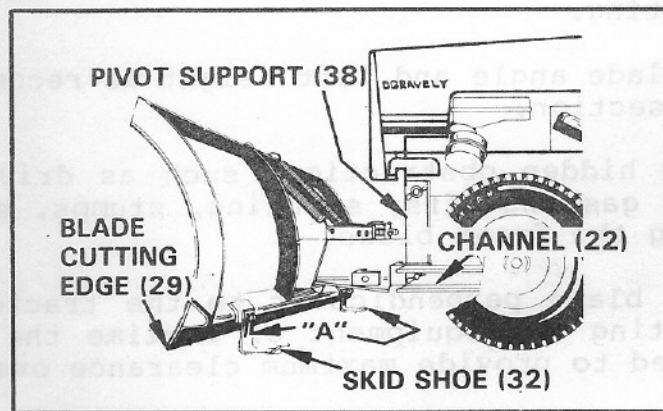

Figure 2
3.1 Operating on rough terrain, the skid shoes should be lowered to prevent the blade from striking rigid objects. Adjust skid shoes by loosening bolts A, Figure 2, and moving the shoes up or down as required. Always adjust both shoes evenly.
The blade cutting edge, Figure 2, is reversible for double life. Should the cutting edge become excessively worn after continued use, remove the seven mounting bolts and reverse the blade.